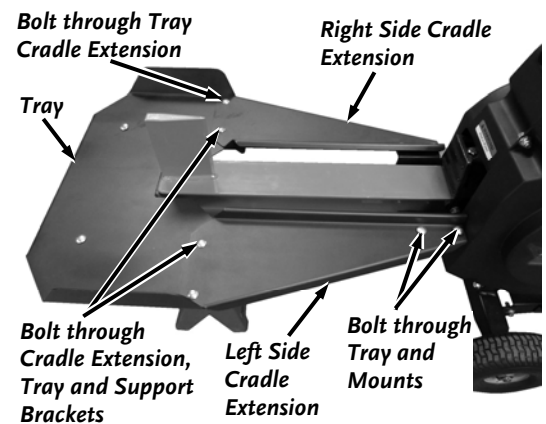

Figure 7
- Position the right and left side Cradle Extensions and secure to the Tray and Mounts with eight 3/8-16 X 1" Carriage Bolts and 3/8-16 Flanged Locknuts by hand but do not tighten (**Figure 7**). Ensure that the two forward inner Bolts go through the Cradle Extension, Tray and Support Brackets.